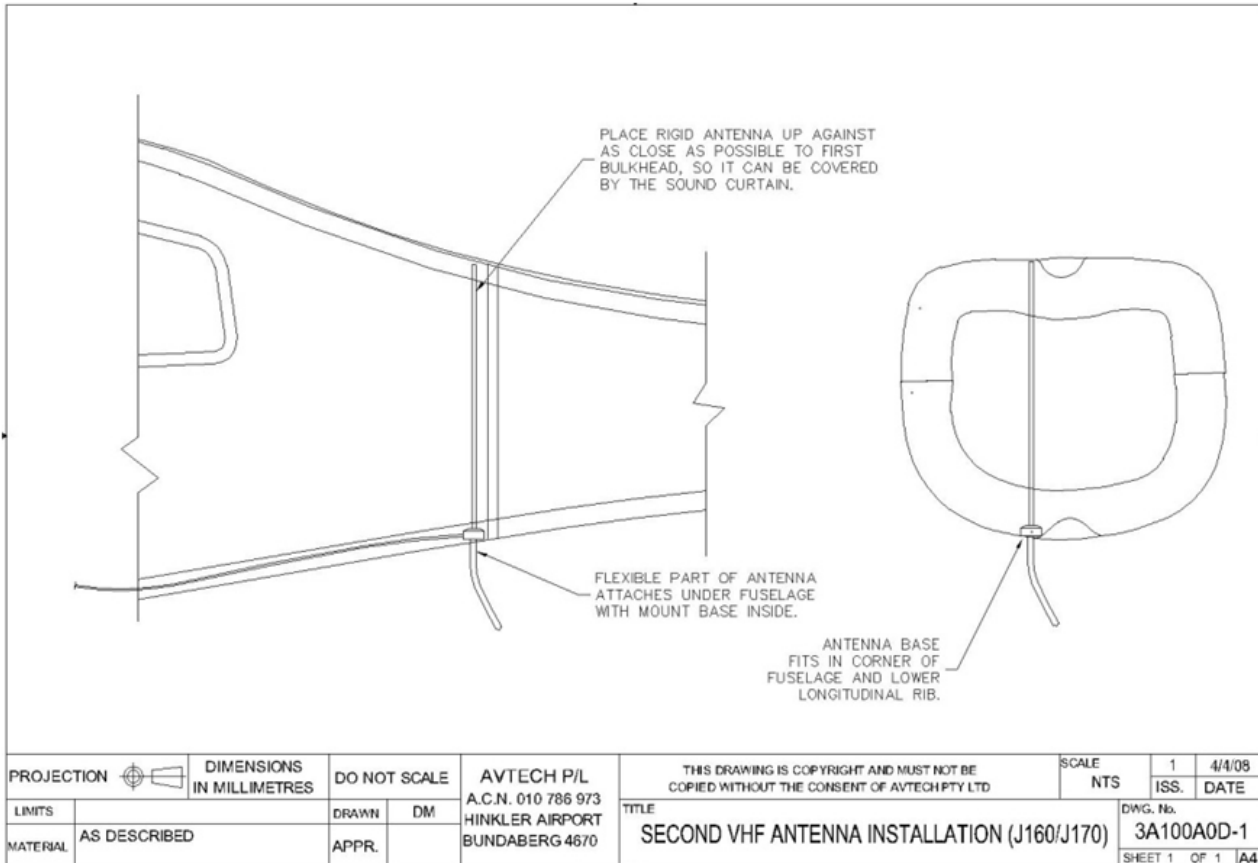
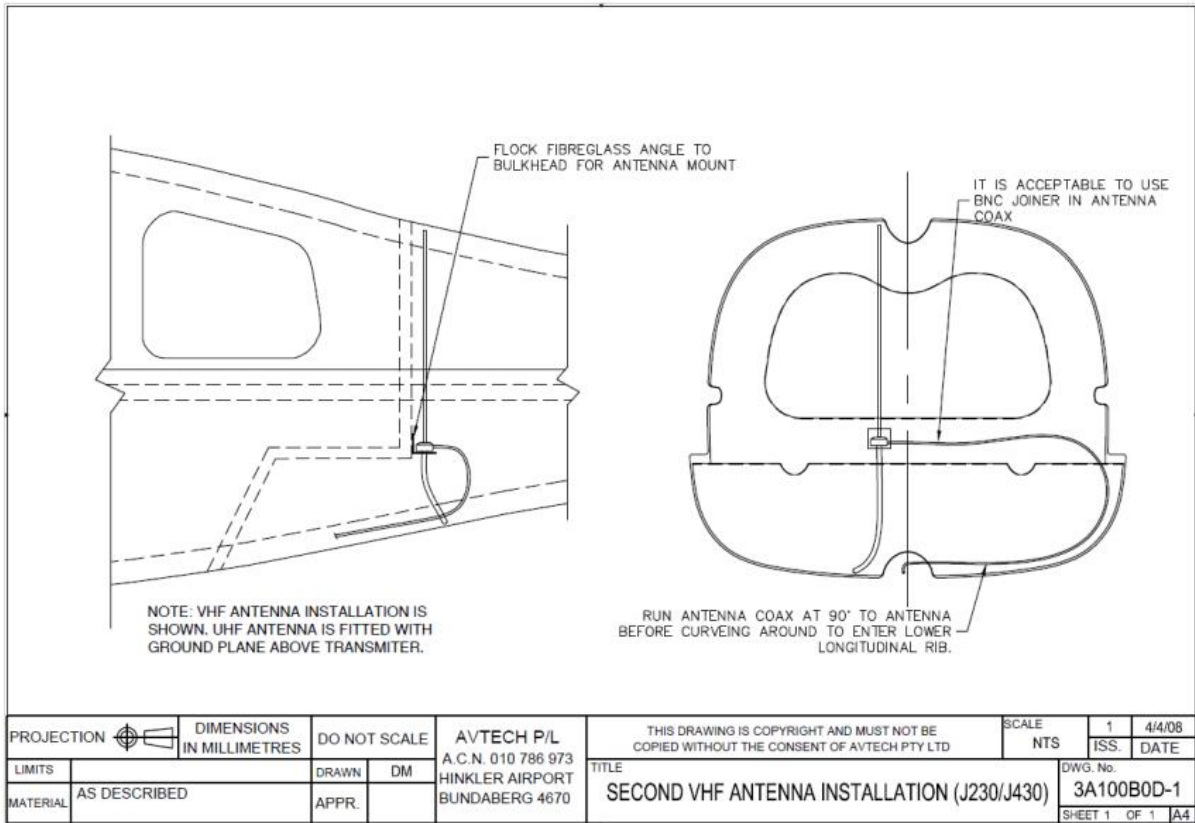

Figure 129 – Second VHF Antenna Installation (J120 / J160 Families)
Figure 130 – Second VHF Antenna Installation (J230 Families)
- Where equipped, second VHF antennas are fitted at the rear of the cabin – refer to Figure 129 and Figure 130